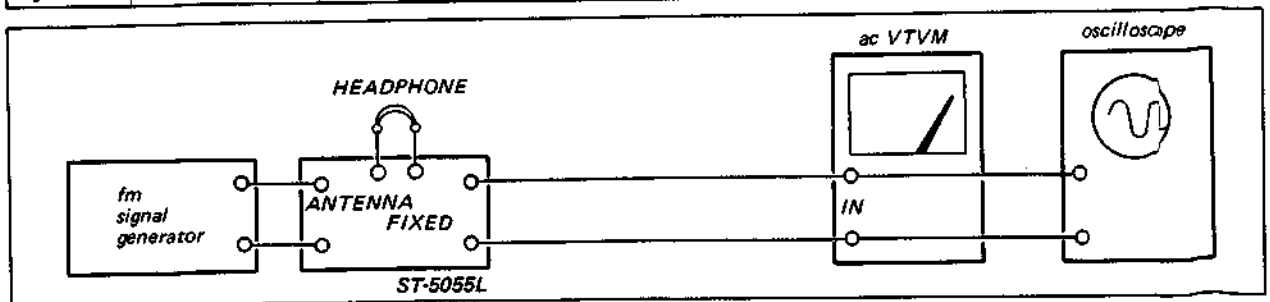

Fig. 3-2. Fm i-f, muting, and front-end alignment test setup
1. With the equipment connected as shown in Fig. 3-2, set the signal-generator controls as follows:
1. Connect the equipment as shown in Fig. 3-2.
1. With the equipment connected as shown in Fig. 3-2, set the signal generator and tuner controls as follows:
1. With the equipment connected as shown in Fig. 3-2, set the signal generator output as follows: